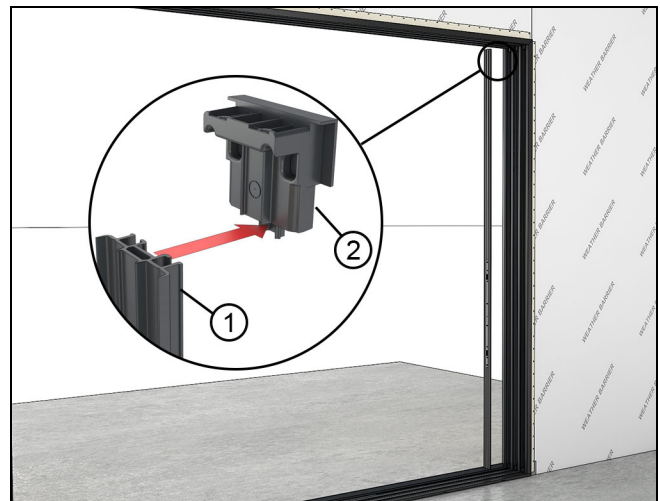

Figure 68
8. On uni-directional units, install the jamb filler with strike attached. The filler will snap into place, engaging with the top and bottom corner keys. See Figure 68.